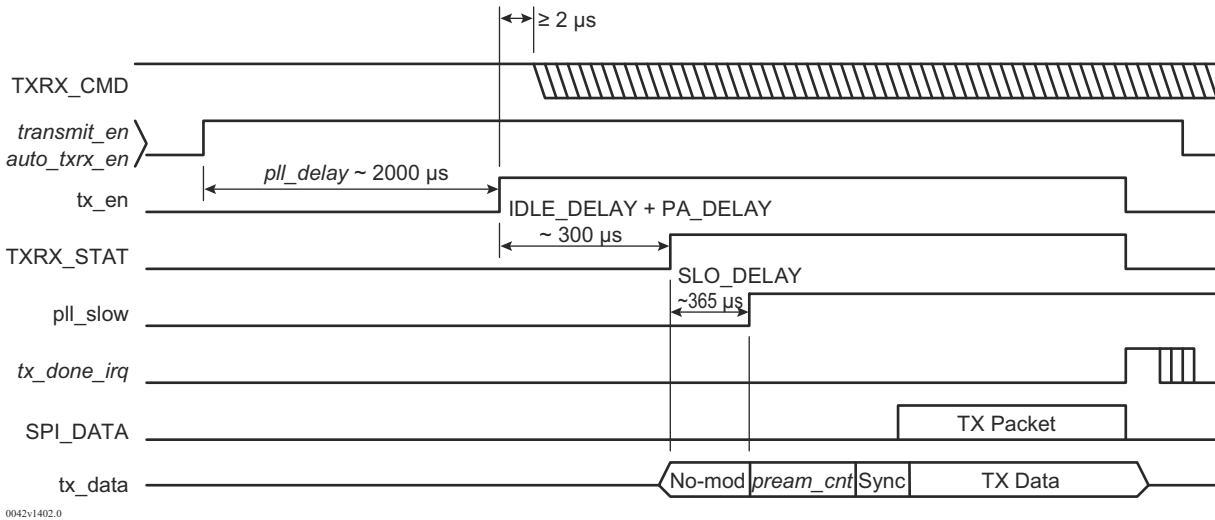

Figure 9-4 • Start of Transmit in Bit-Count Mode with TXRX_CMD Initialized High
- To use the minimum preamble length, assert TXRX_CMD high prior to enabling transmit. TXRX_CMD must be held high until at least 2µs after *pll_delay*. See Figure 9-4 on page 46. The minimum preamble length is the value programmed in *pream_cnt*.
Figure 9-4 on page 46 shows an example of the second case, where TXRX_CMD is initialized high. In this case, the length of the preamble is controlled solely by *pream_cnt*, and the start of the packet is determined by the series of programmable timers that sequence the start of the packet. The TXRX_CMD pin can be lowered either: any time after 2002µs (the 2000-µs PLL delay plus 2µs), after TXRX_STAT is asserted, or after *tx_done_irq* is asserted.